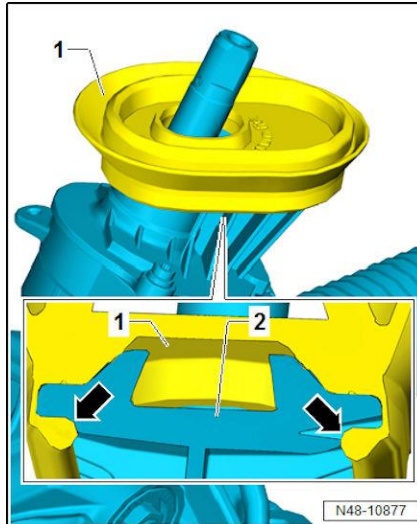

Figure 7
- Replace the steering gear seal -1- (Figure 7) according to the repair manual.
After connecting the steering gear to the universal joint verify that the seal -1- (Figure 7) is flush on the surface of the steering gear to ensure a good seal against water ingress or noise.